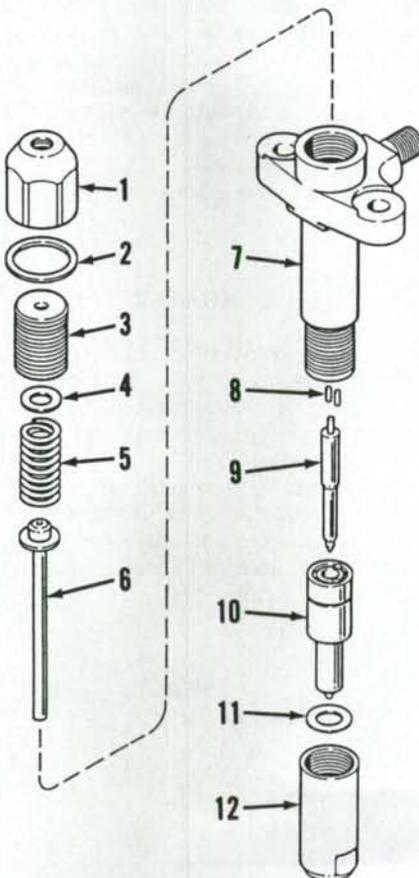

Fig. 117—Exploded view of typical fuel injector used on all models.
To adjust nozzle opening pressure, remove top cap nut (1—Fig. 117) and turn adjusting screw (3) until specified opening pressure is obtained.
**NOTE:** When adjusting an overhauled injector with a new pressure spring (5), set pressure to new injector specifications to allow for initial pressure loss as spring takes a set.
To disassemble injector, clamp body in holding fixture or soft jawed vise with only enough pressure to keep injector from slipping. Remove cap (1—Fig. 117) and washer (2). Some injectors have a locknut which is removed next. On all injectors, back off pressure adjusting screw (3) until all tension is removed from pressure spring (5). Remove nozzle retaining cap (12) and nozzle (10). Remove nozzle from retaining cap and needle (9) from nozzle. Place in approved cleaning solvent. Remove adjusting screw (3), using care not to lose washer (4). Remove spring (5) and spindle (6). Place in cleaning solvent.
Clean all parts using clean diesel fuel and install needle (9—Fig. 117) into nozzle (10). Needle should slide freely by its own weight to bottom of nozzle body. If needle sticks, reclean or renew nozzle valve assembly.